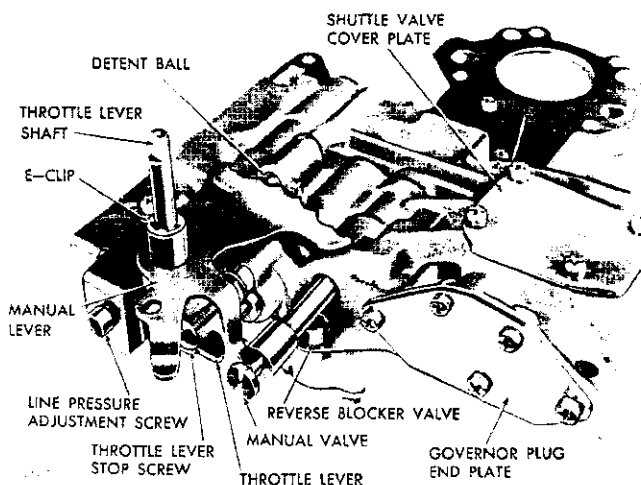
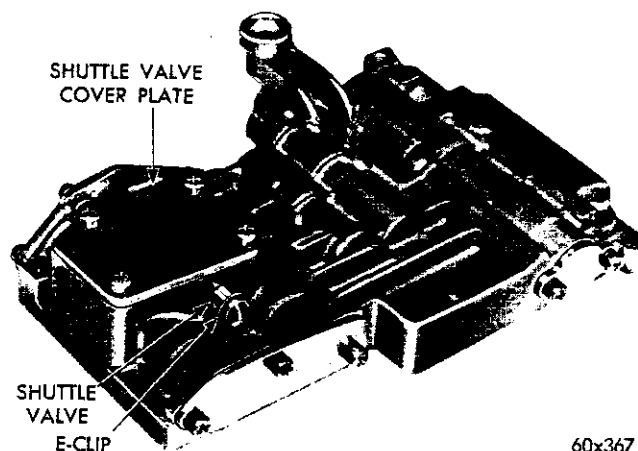

Fig. 58—Valve Body Controls (Assembled View)
Fig. 59—Shuttle Valve and Retainer Clip
(9) Invert valve body and lay it on a clean cloth or paper. Remove E-clip from the throttle lever shaft (Fig. 58). Remove any burrs from the shaft, then while holding manual lever detent ball and spring in their bore with Tool C-3765 or similar tool, slide manual lever off the throttle shaft. Remove detent ball and spring.
(10) Remove the manual valve, carefully slide it out of valve body with a rotating motion.
(11) Remove the throttle lever and shaft from the valve body.
(12) Remove the shuttle valve cover plate (Fig. 59). Remove the E-clip from the exposed end of the shuttle valve.